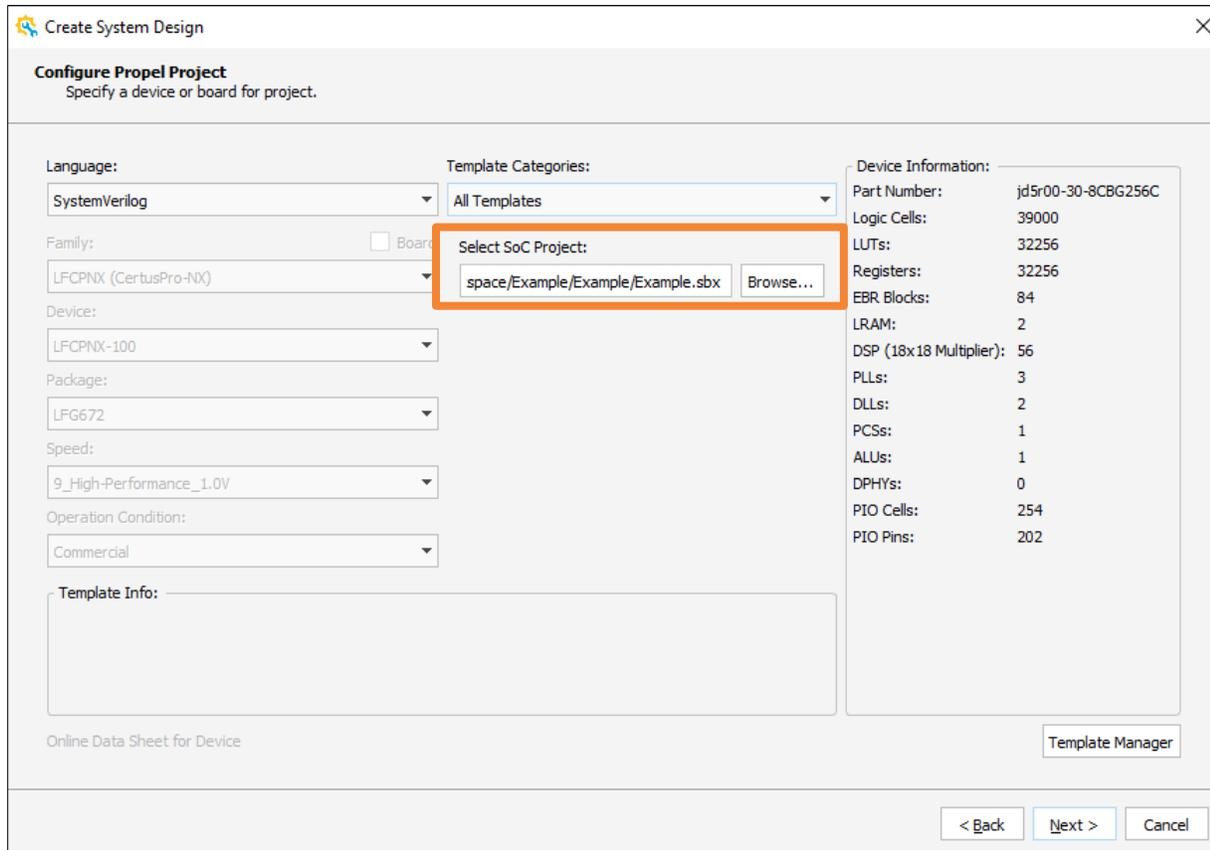

Figure 2.143. Create System Design – Propel Project Configure Wizard
5. Click **Next**. The Propel Project Configure wizard is shown as Figure 2.143.